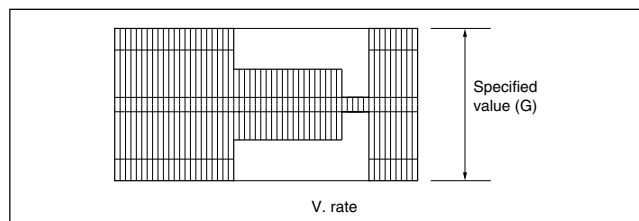

Fig. 3-3-4b REC color (colour) level
- (1) Connect the adjustment tool (H3) to the measuring point (D1).
- (2) Apply the external trigger signal to D.FF (E) to observe the PB color (colour) waveform at the measuring point (D2).
- (3) Play back the signal (A3) in the mode (B1) of the alignment tape (A1).
- (4) Press the channel buttons (+, -) simultaneously to enter the manual tracking mode. This also brings tracking to the center (centre).
- (5) Adjust tracking by pressing the channel buttons (+, -) so that the PB color (colour) waveform becomes maximum. Make a note of the higher PB color (colour) level as "B" at this time.
- (6) Record the signal (A3) in the mode (B1), and play back the recorded signal.
- (7) Set the VCR to the EVR mode by transmitting the code (F1) from the Jig RCU.
- (8) Set the EVR address to (F2) by pressing the button of the digit-key remote controller.
- (9) Adjust with the channel buttons (+, -) on the VCR (or on the remote controller) so that the higher level channel becomes the specified value (G) of the note "B" level as shown in Fig. 3-3-4b. (Adjust before recording, then confirm it by playing back.)
- (10) After adjustment, record the signal (A3) then playing it back again. At this time, confirm that there is no inverting phenomenon or noise appearing on the playback screen.
- (11) Release the EVR mode of the VCR by transmitting the code (F1) from the Jig RCU again. (When the EVR mode is released, the adjusted data is memorized.)
- (12) Repeat steps (3) to (11) in the mode (B2).